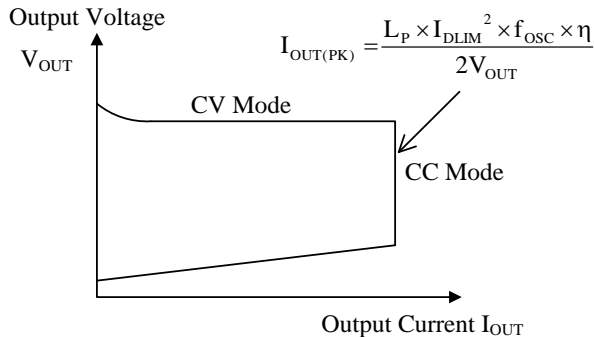

Figure 10-9 CV/CC characteristics
10.7 Constant Current (CC) Control
The IC operates in Constant Current (CC) Control when output current reaches to constant load and the state continues for more than the Constant Current Control Delay Time, $t_{CCD} = 90$ ms. In case the IC is in discontinuous operation, the CV/CC characteristic is as shown in Figure 10-9.